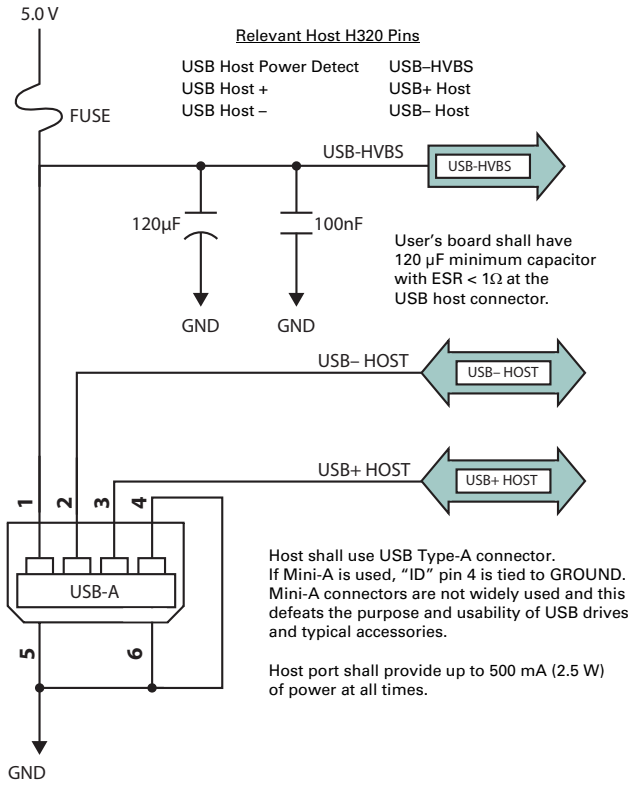

Figure 2-4: H320 USB host design example
- USB Host port (data storage) shown in Figure 2-4 on page 14 serves as a data storage port, such as with a USB flash drive